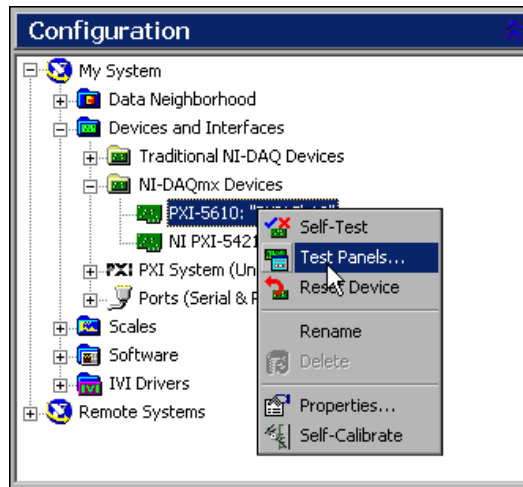

Figure B-3. Open the NI 5670 Test Panel from the NI PXI-5610 Right-Click Menu
9. In the MAX Configuration tree, right-click **NI PXI-5610** and select **Test Panels** as shown in Figure B-3.